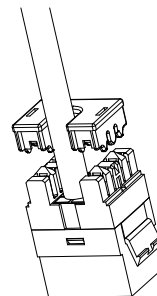

Fig.17
5.2.9 Fit cable strain relief stuffer cap (Fig 17).
Once terminated, fit cable strain relief stuffer cap. See Fig. 17.